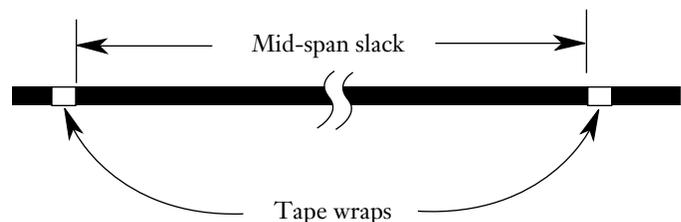

Figure 26
7.3 Determine the amount of slack needed. Place a wrap of tape at each end of the cable sheath that is to be removed (Figure 26).